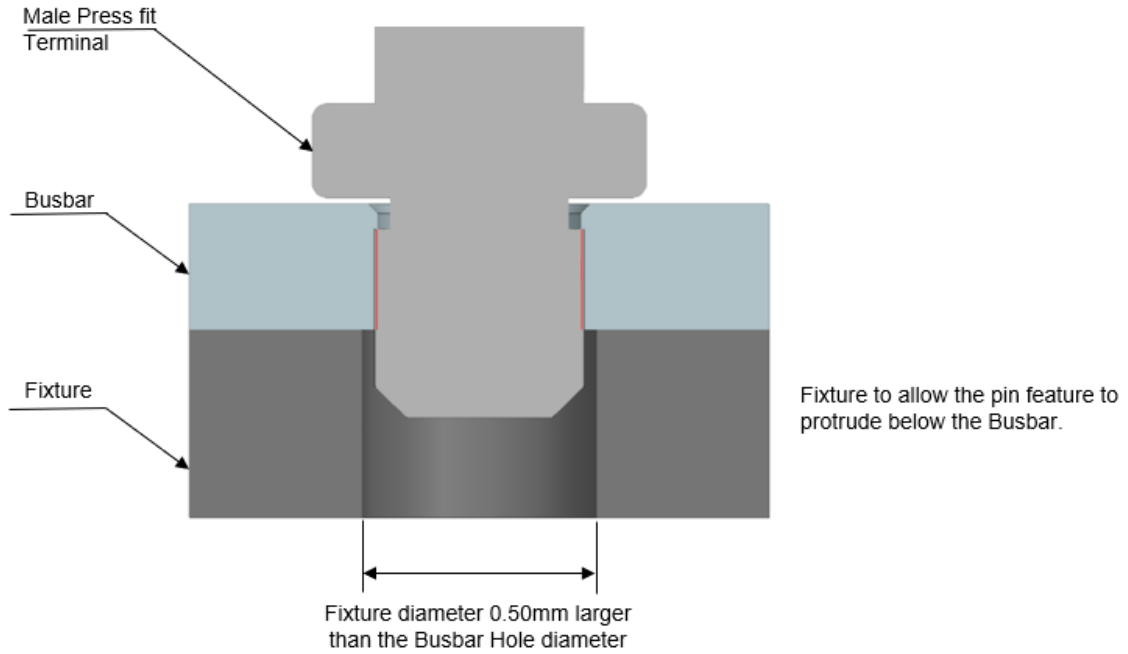

Figure 5.1.1
- a. Fixture should have a hole clearance of 0.50mm with respect to Busbar hole dimension for free flow of pin during press. Refer to below figure 5.1.1.